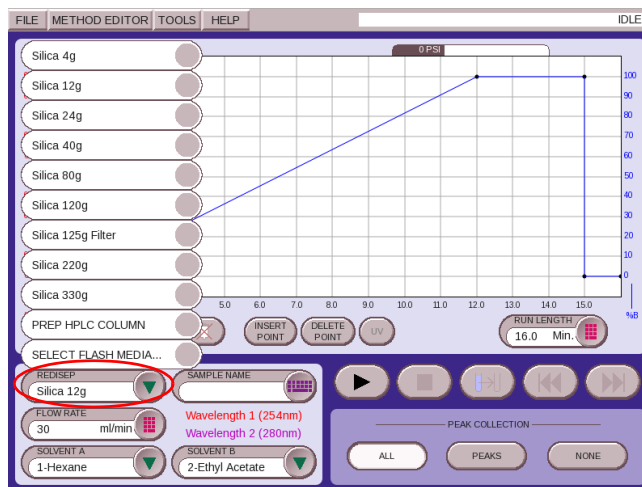

Figure 2: Run screen
8. On the RUN screen press the DOWN arrow in the REDISEP window to select a column (Figure 2).